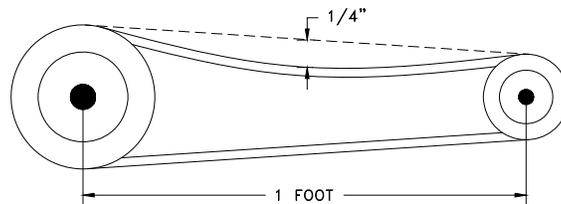

Fig. 5 – Belt & Pulley Tension
2. Slide the motor plate back until proper tension is reached. For proper tension a deflection of approximately $\frac{1}{4}$ " per foot of center distance should be obtained by firmly pressing the belt. Refer to Fig. 5.